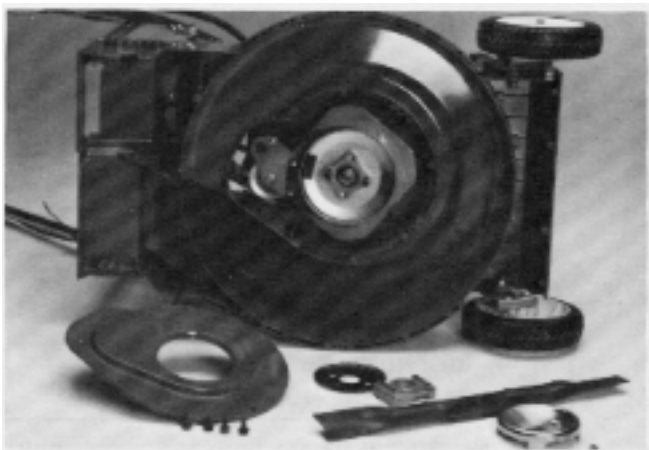

Figure 97
8. Make sure that the anti-vibration pads are in place on the brake drum and assemble the brake drum bearing block and BBC screws onto the crankshaft as shown in Figure 97. Secure with the crankshaft nut.